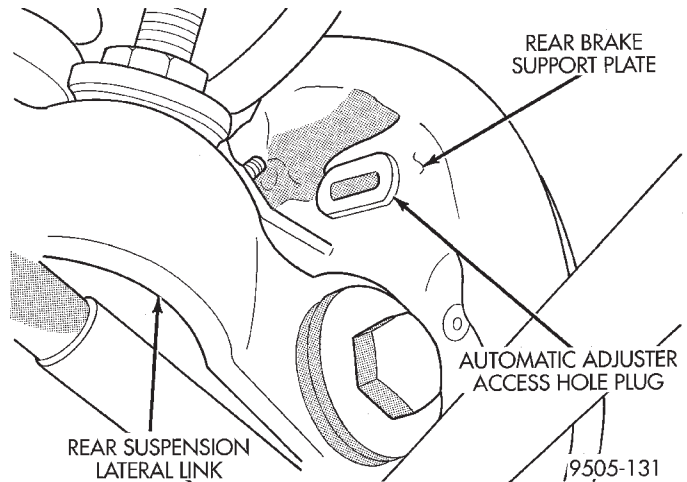

Fig. 120 Automatic Adjuster Access Hole Plug
(1) Remove the rubber plug (Fig. 120) from the brake support plate.